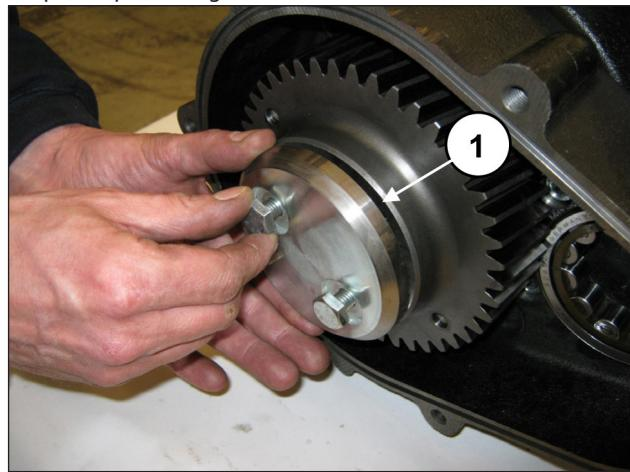

Fig. 78
Fasten the ring gear stop (pos. ①, Fig. 78) using the 2 M10x25 screws.